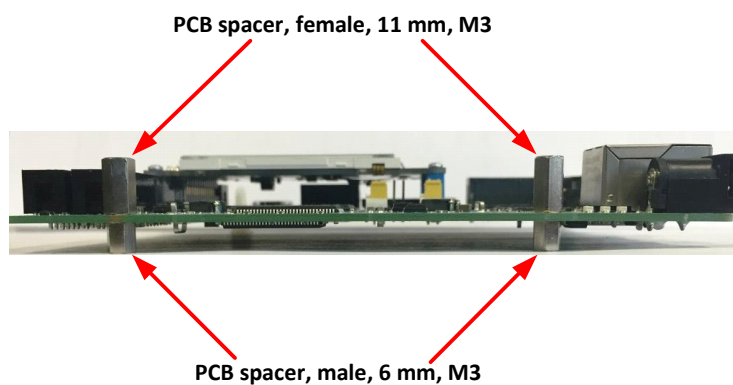

Figure 3-2 Spacers replacement
2. Replace them with the two spacers provided with the adaptor board as shown in Figure 3-2